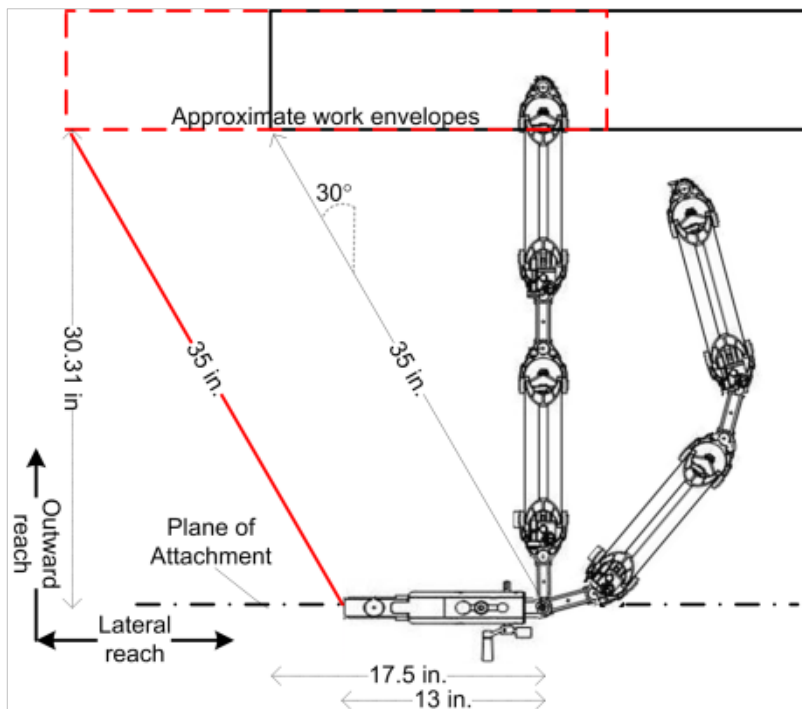
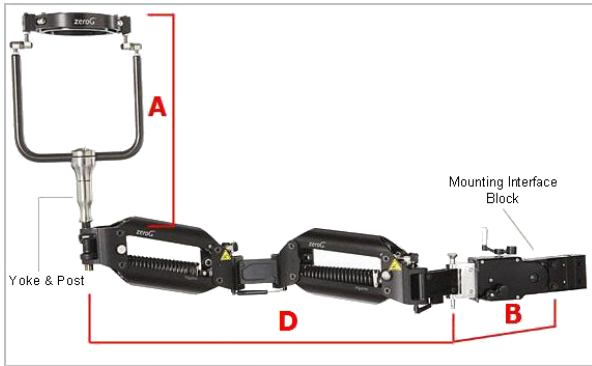
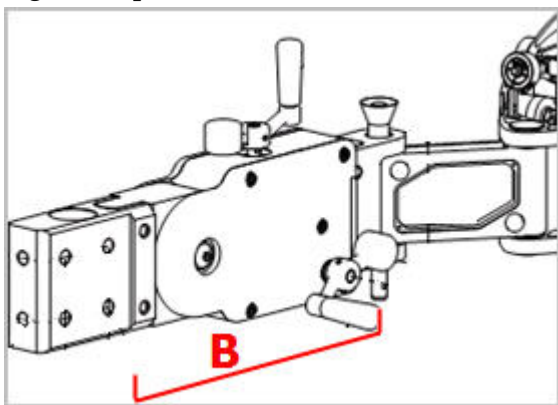

Figure 1 Outward and lateral reach
Figure 2 Spans A, B, and D
Figure 4 Span B
1. Measure the vertical reach of the post and gimbal (span A, Figure 2). _____
4. Measure the distance from the mounting point to the work area perpendicular to the plane of attachment (see Figure 1). _____
5. Measure the horizontal offset from the mounting point provided by the mounting interface block and any other mounting apparatus (span B, Figure 2 and Figure 4). _____ As Figure 1 shows, this doesn't affect the outward reach much if it is less than 17 in., but a shorter offset can be significant if the work envelope is fairly wide, in which case you may need a moveable mounting system.